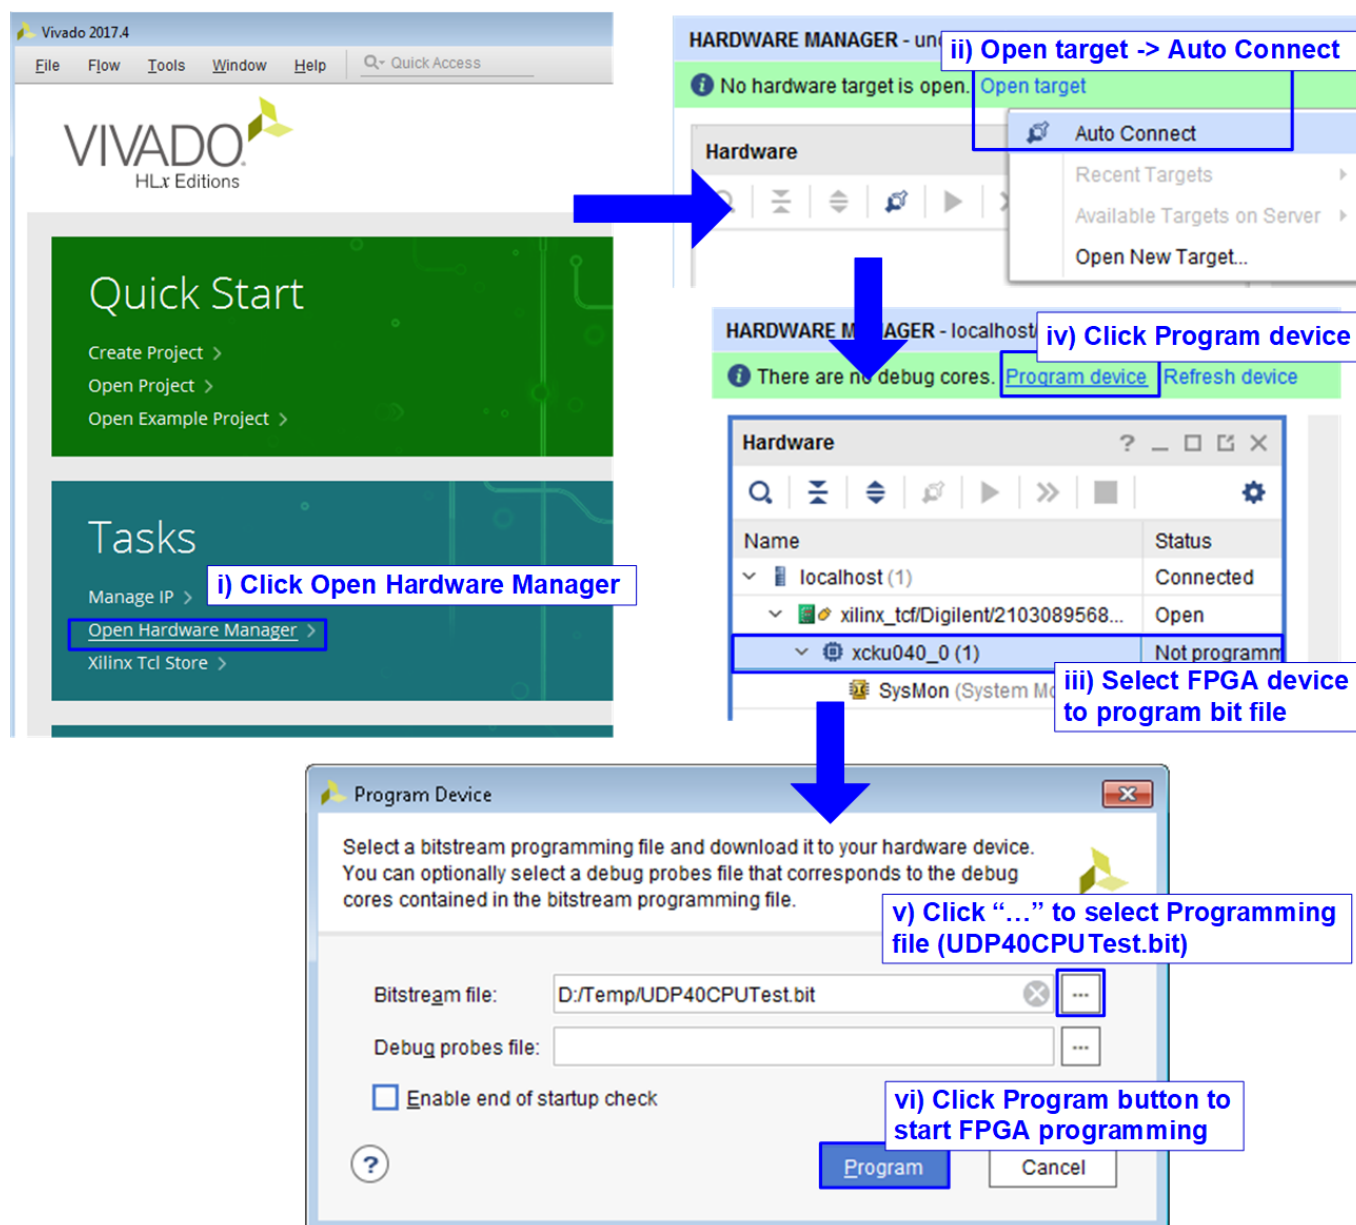

Figure 2-9 Configure bit file using Vivado tool
a) KCU105 board: Use Vivado tool to program configuration file, as shown in Figure 2-9.